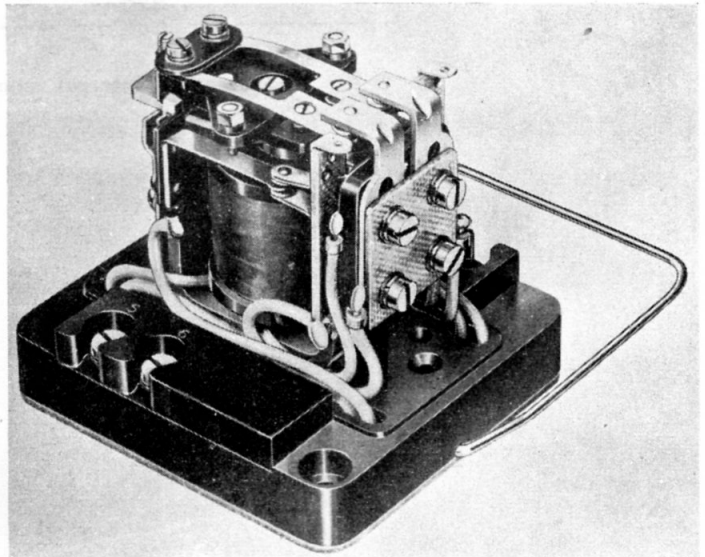

Fig. 1. Switch, magnetic, Type 3A, No. 3 (cover removed)
1. This magnetic switch (fig. 1) has been designed to serve as a general purpose relay in aircraft electrical systems and is fitted with a 112 volt operating coil.